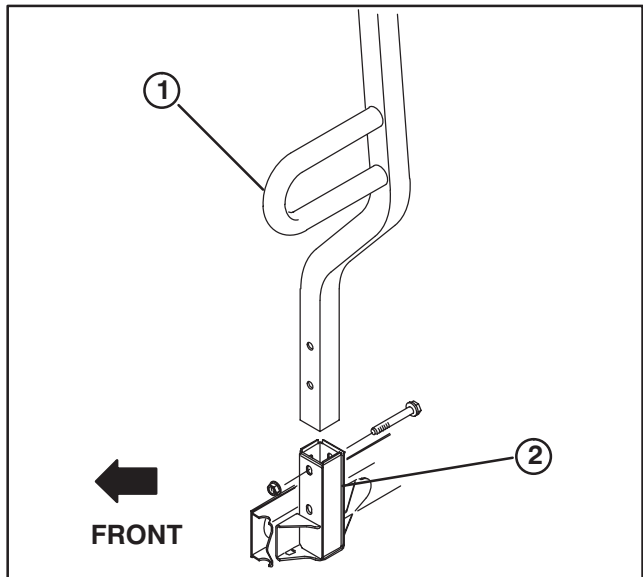

Figure 7
INSTALL ROPS (Fig. 7)
1. Insert each side of ROPS into mounting bracket on each side of vehicle frame, positioning ROPS as shown in figure 7.
2. Secure each side of ROPS to mounting brackets with (2) 1/2–13 x 3" lg. capscrews and locknuts.